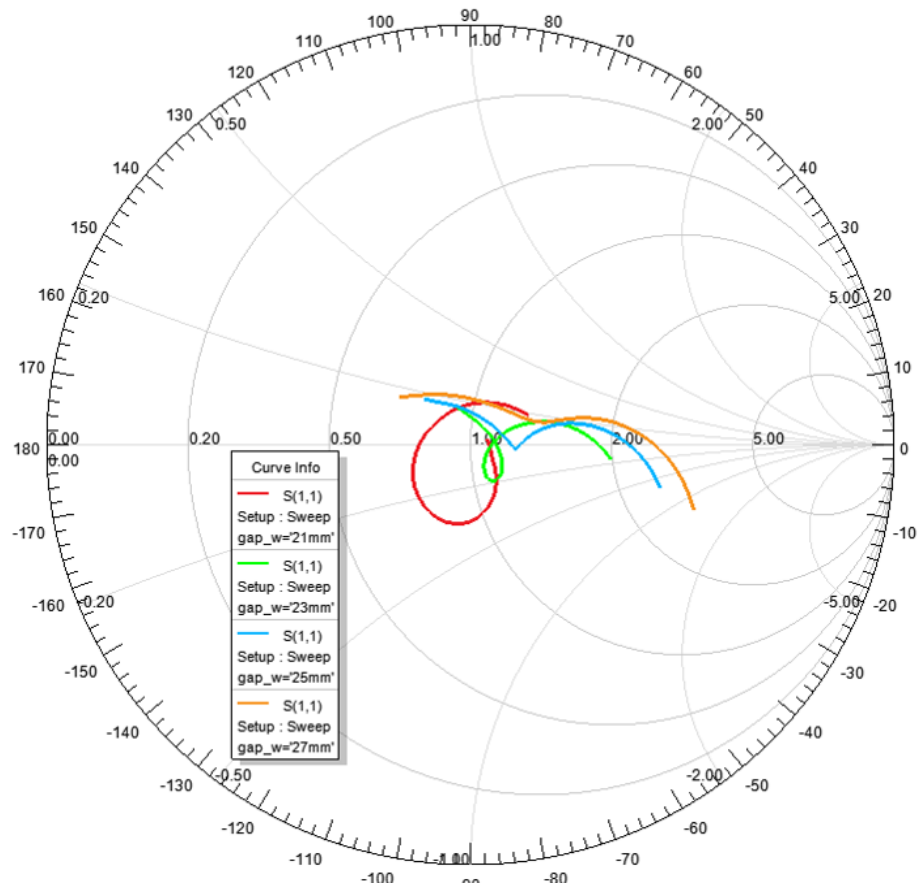

Figure 12. gap_w Parameter Chart
- gap_w Parameter Chart (Figure 12)